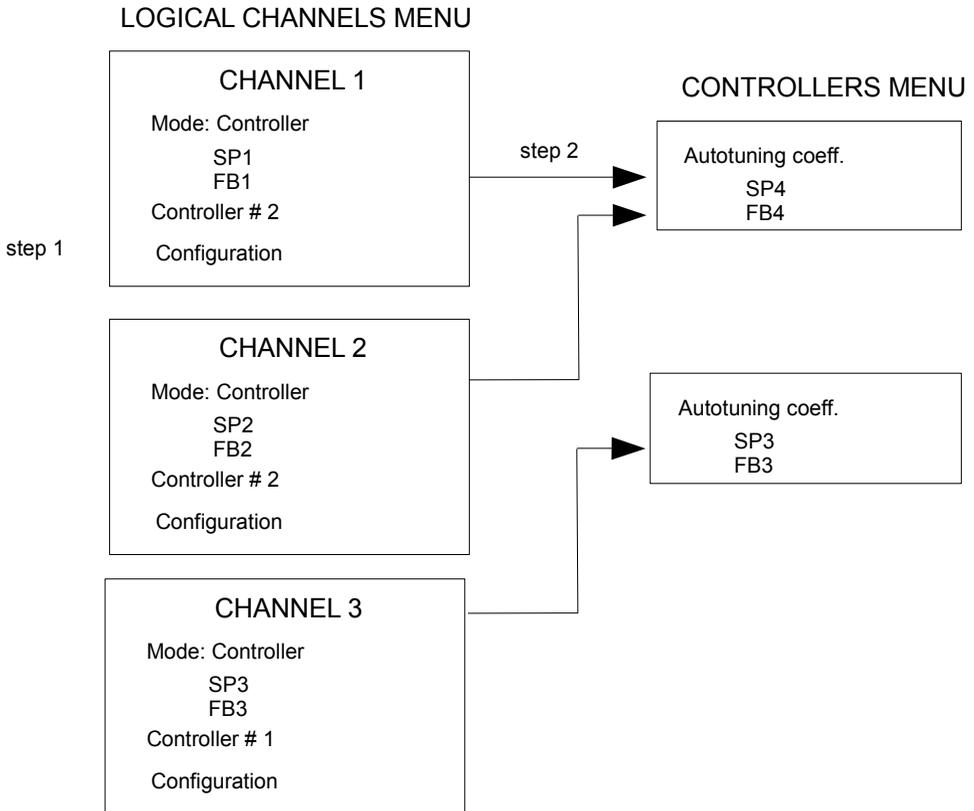

Fig. 7.120. Configuration diagram of the **Controller** using Logical channels Menu
- directly in the Logical channel in the Regulator mode by pressing the button Source configuration (see **Fig. 7.120**).